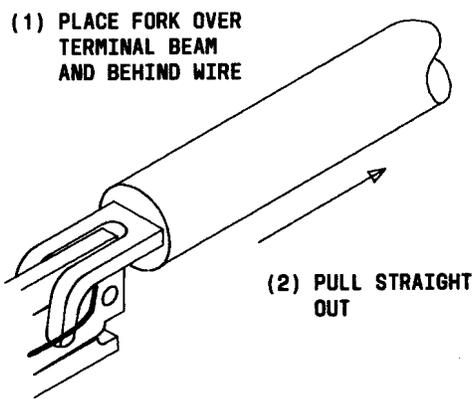
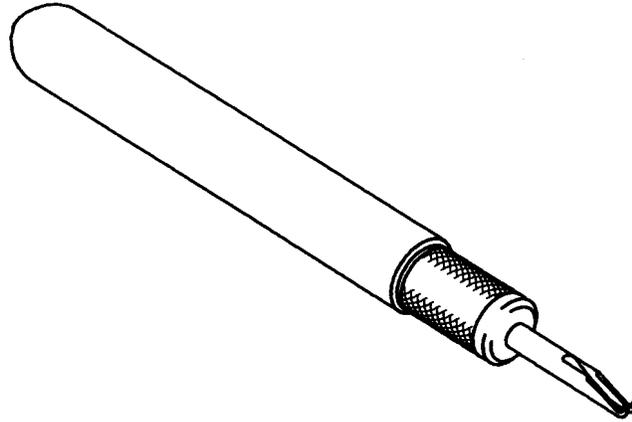
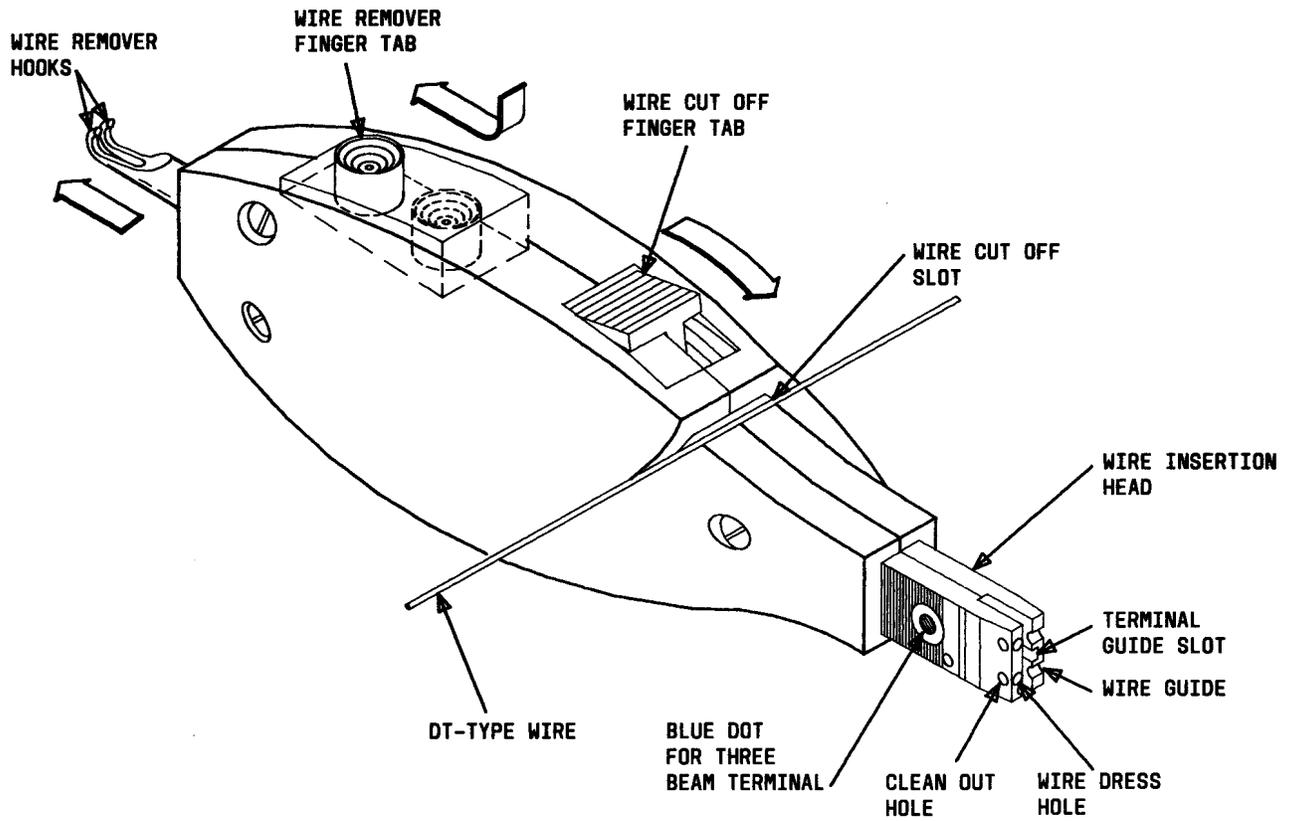
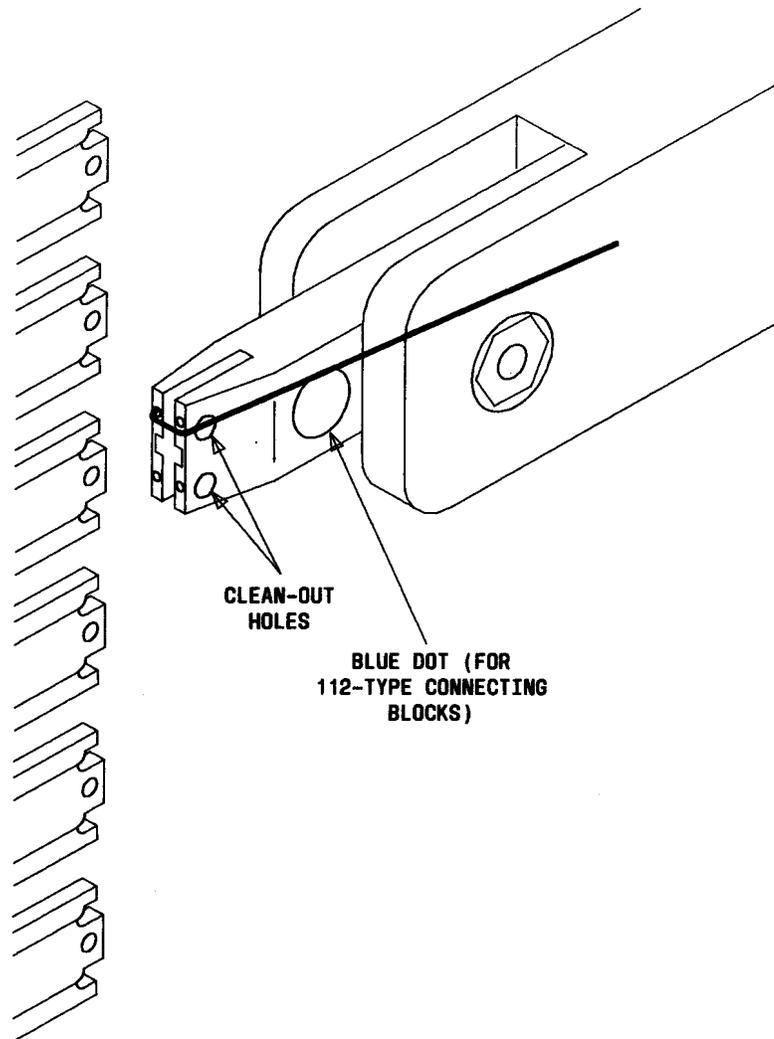

Fig. 2—724A Wire Removal Tool
Fig. 3—980A Wire Removal Tool
Fig. 4—950A Wire Insertion and Removal Tool
Fig. 6—756C-2 Wire Insertion Tool
5.01 Remove the cross-connection wire(s) from the defective terminal, using the 724A wire removal tool (Fig. 2), the 980A wire removal tool (Fig. 3), or the 950A wire insertion and removal tool (Fig. 4).
(Fig. 6), the 756C-3 wire insertion tool (Fig. 7), or the 950A wire insertion and removal tool (Fig. 4).